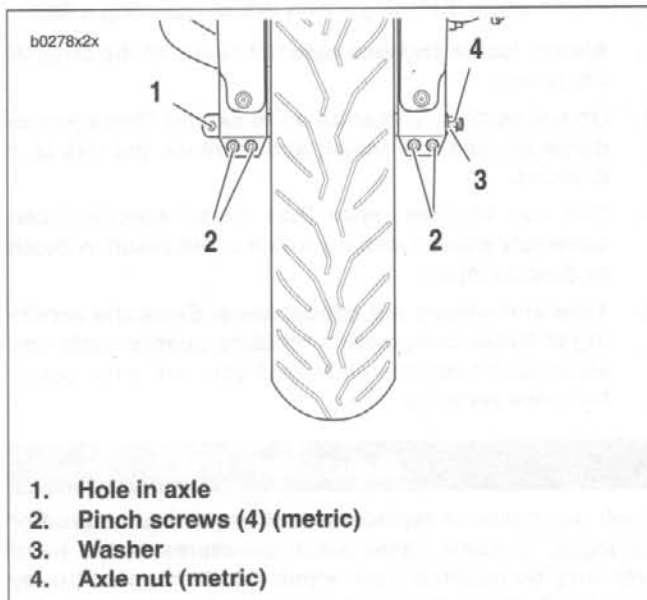

Figure 2-5. Front Wheel Mounting
3. See Figure 2-5. Insert screwdriver/rod through hole in axle (1). Loosen front axle nut (4) (metric).
4. Loosen all four pinch screws (2) (metric).
5. Remove front axle nut (4) and washer (3). Pull front axle out of wheel hub while supporting front wheel.
3. Install axle nut (4).
- b. Install washer (3) and axle nut (4) (metric) over threaded end of axle.
- c. See Figure 2-5. Insert screwdriver or steel rod through hole (1) in axle.
- d. While holding axle stationary, tighten axle nut (4) (metric) to 48-53 ft-lbs (65.1-71.9 Nm).
2. Caliper mount bolt (2)
3. Drive pin assembly (6)